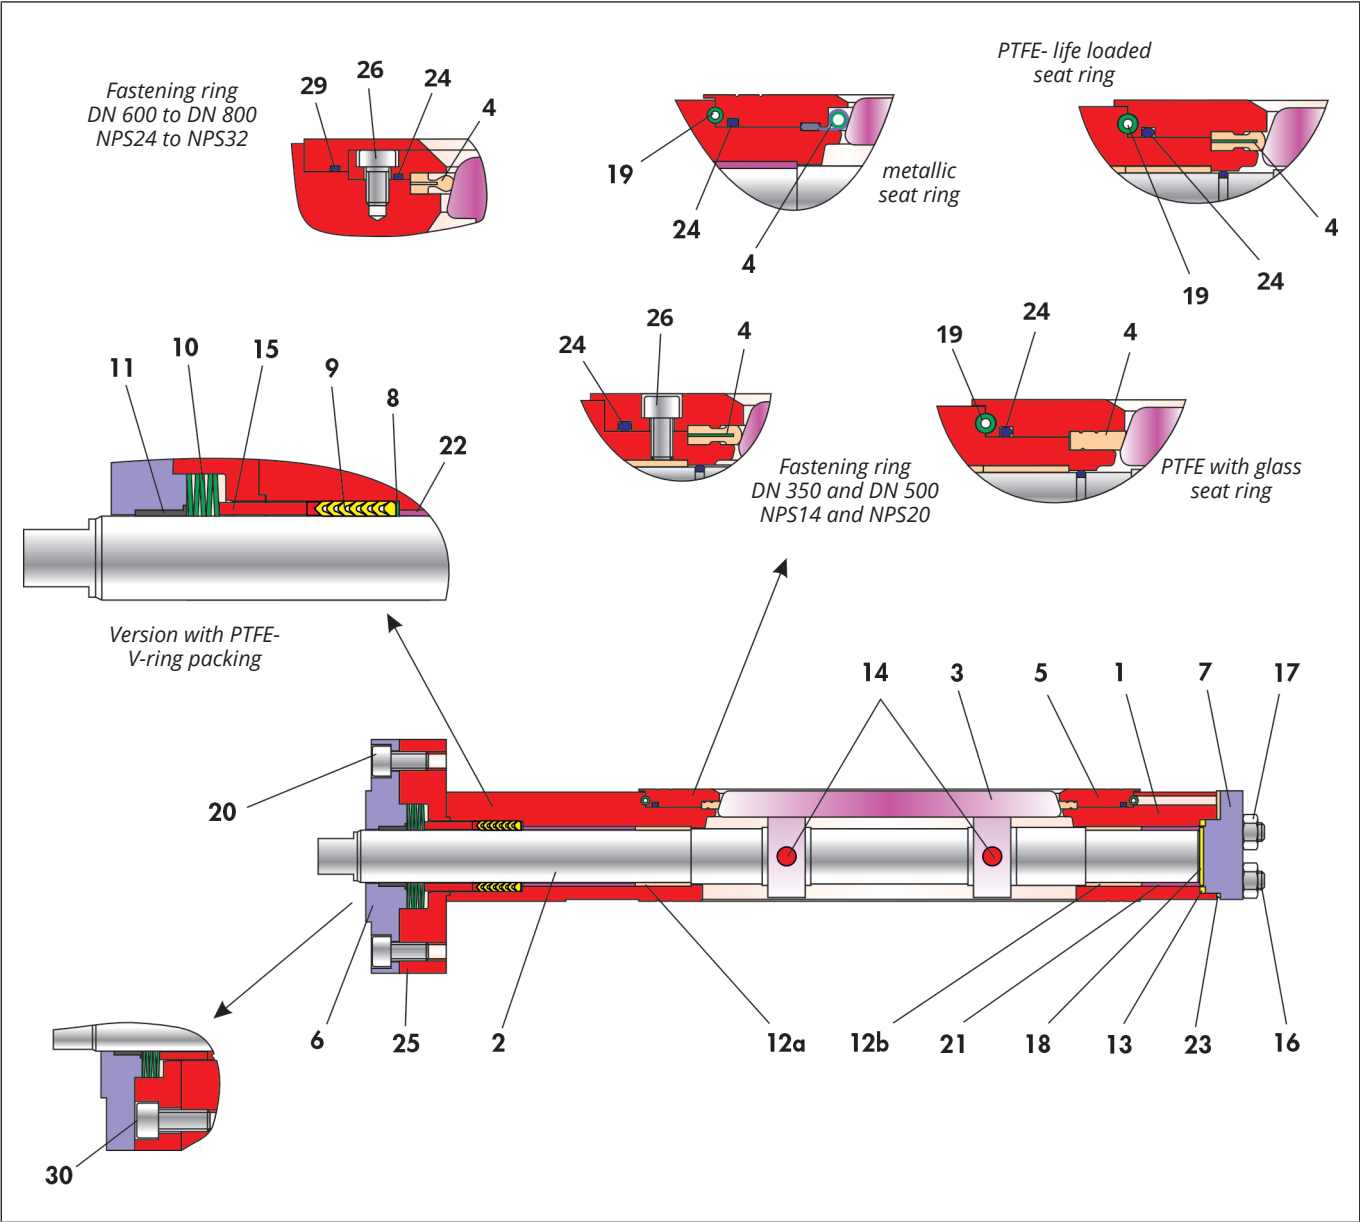

Fig. 3-4: Sectional drawing of the BR 14c butterfly valve with spring washer preloaded V-ring packing
- ⇒ Push the disc (8) over the free shaft end into position in the valve body.
- ⇒ Push the PTFE V-ring packing (9) over the control shaft into the body bore and press in with an assembly sleeve. Refer to the sectional drawing Fig. 3-4 for the arrangement of the V-ring packing.
- ⇒ Push the thrust ring (15) over the control valve and press it into position in the valve body.
- ⇒ Insert the disc spring set (10). Refer to the sectional drawing Fig. 3-4 for the arrangement of the disc springs.
- ⇒ Press the bearing bush (11) into the stuffing box flange (6).
- ⇒ Fit the preassembled stuffing box flange smoothly over the intermediate flange and adjust with screws (20).
- ⇒ Tighten the screws (20) evenly in a criss-cross pattern.